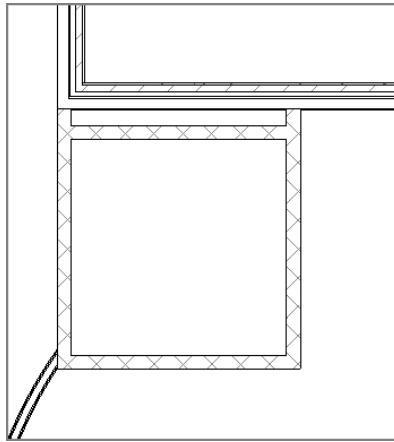

FIGURE 2.48: The northeast corner
1. Zoom into the northeast corner of the building, as shown in Figure 2.48, and set the detail level to Fine.